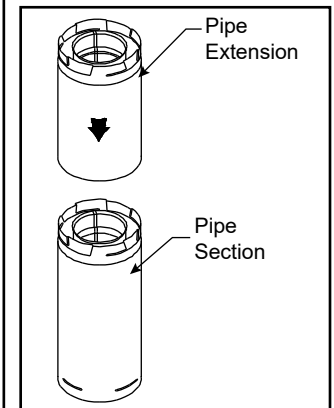

Figure 3.34
1. If exact lengths or distances must be met between elbow offsets or elsewhere, use the pipe extensions to adjust onto standard pipe sections, Figure 3.34.